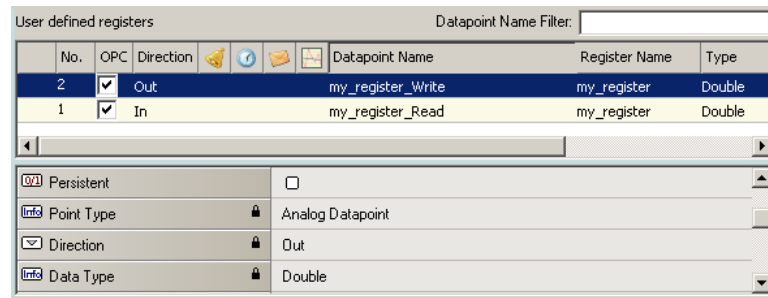

Figure 112: Manually created user register.
6. Two data points now appear for the register, one for writing the register and one for reading the register as shown in Figure 112.